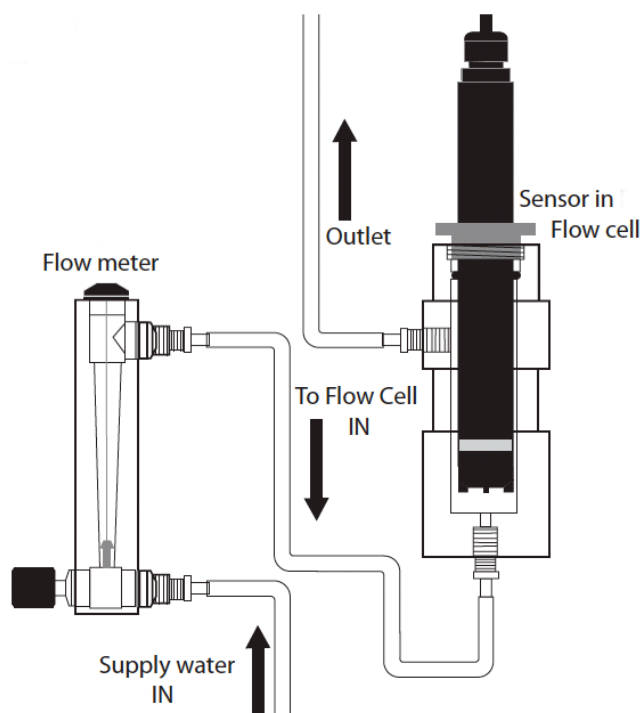

Figure 3 - Schematic of probe, flow cell and flow meter
Figure 3 shows the complete assembly of probe, flow cell and flow meter, including the direction of water flow.
4. Insert the probe assembly into the flow cell as shown in Figure 3.